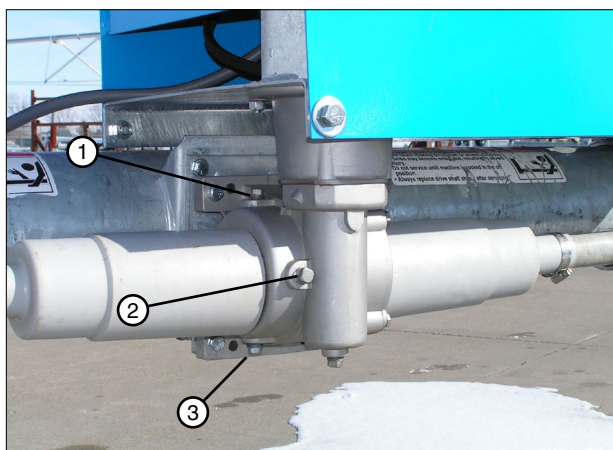

Figure 34-1 1. Fill Plug
1. Remove and retain fill plug from top of gearbox, oil level plug from side of gearbox and drain plug from bottom of gearbox and drain oil into a container. See figure 34-1.
2. After oil has completely drained out of gearbox, install drain plug in bottom of gearbox and tighten completely. See figure 34-1.
3. Fill gearbox with Valley Gear Oil until oil begins to flow out of oil level hole. Install fill plug in top of gearbox, oil level plug inside of gearbox, then tighten both completely. See figure 34-1.